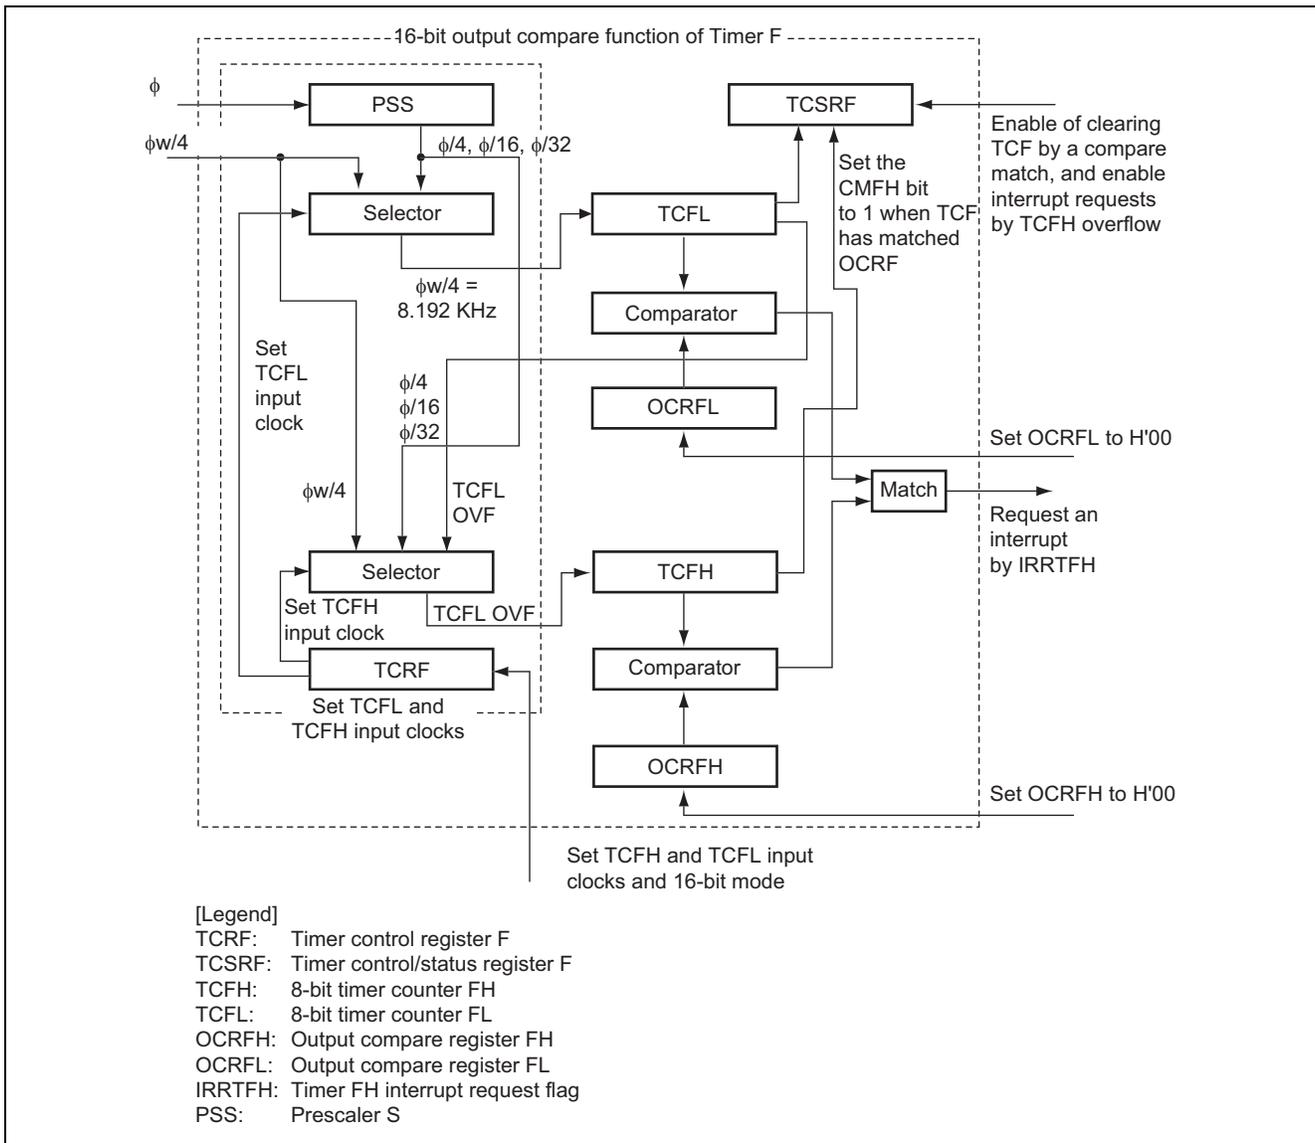

Figure 2 Block Diagram of 16-Bit Output Compare Function of Timer F
2. Figure 2 shows a block diagram of the 16-bit output compare function of timer F used in this sample task.